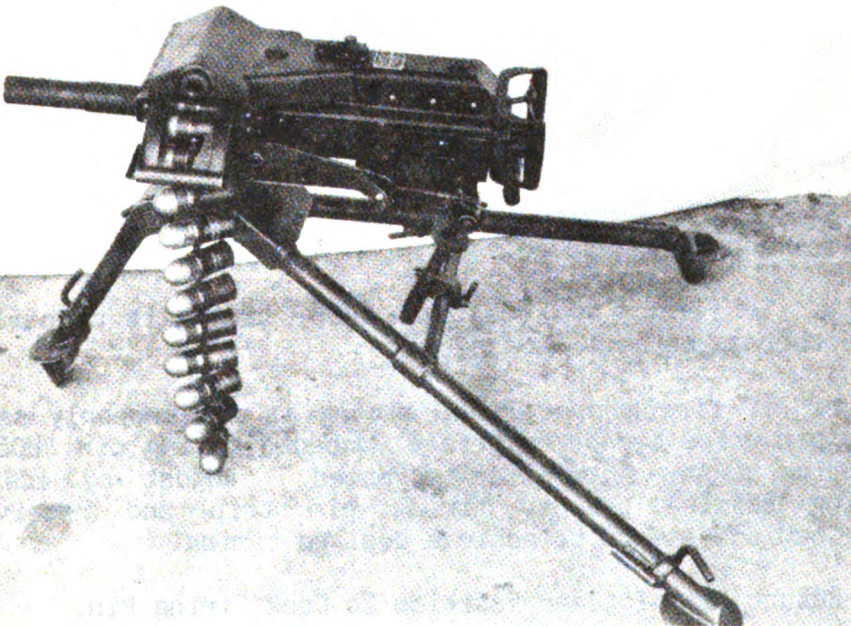

Figure 2
2. Pull Bolt To Sear Position, Cocking Firing Pin. (See fig. 2.)